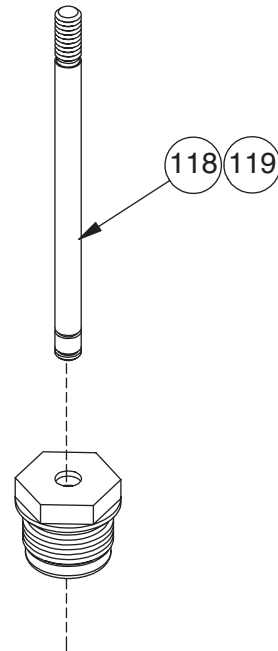

Figure 44
- 1. Place a drop of Shock Fluid (117) on the grooved end of each Shock Shaft [front (118), rear (119)]. Then slide a Cartridge, hex end first, down the Shock Shaft toward the threads as shown in Figure 44.